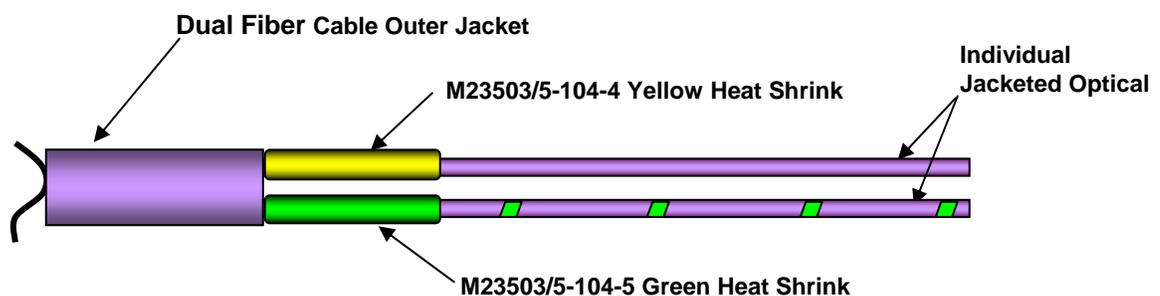

Figure 7-12 – Installing the Yellow and Green Heat Shrink Sleeves
Step 4 - Slide the yellow heat shrink, part number M23053/5-104-4, 25mm +/- 2.5mm (1.00 in +/- 0.10 in) long up onto the individual jacketed optical fiber with the yellow tracer embedded in the strength members. Slide the green heat shrink, part number M23053/5-104-5, 25mm +/- 2.5mm (1.00 in +/- 0.10 in) long up onto the individual jacketed optical fiber with the green tracer embedded in the strength members (cable with the green strips on the outer jacket). Ensure that the heat shrink goes up to and touches the outer jacket of the dual fiber cable. Shrink down the heat shrink using a heat gun no hotter than 210°C. See Figure 7-12.